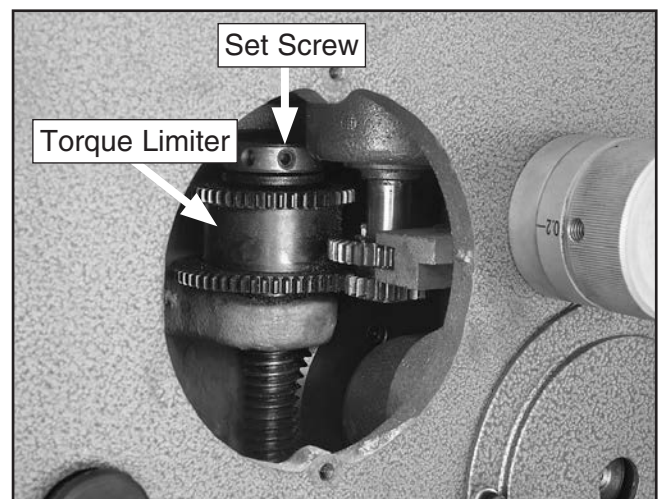

Figure 42. Torque limiter and set screw.
3. Rotate the spindle by hand until the set screw on the torque limiter is visible (see **Figure 42**).